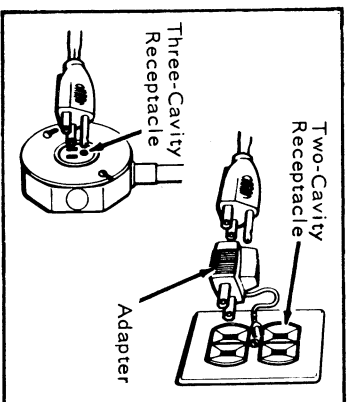

Fig. 1. Electrical Outlets
1. If the outlet has a properly grounded, three-cavity receptacle, as shown in Fig. 1, the tool will be automatically grounded when the plug is inserted in the receptacle.
2. If the outlet has a two-cavity receptacle and is grounded, use an adapter as shown in Fig. 1 (except in Canada). Connect the green lead from the adapter to the screw on the outlet plate. SKIL Adapter No. 13722, or other similar type adapters, can be purchased locally.